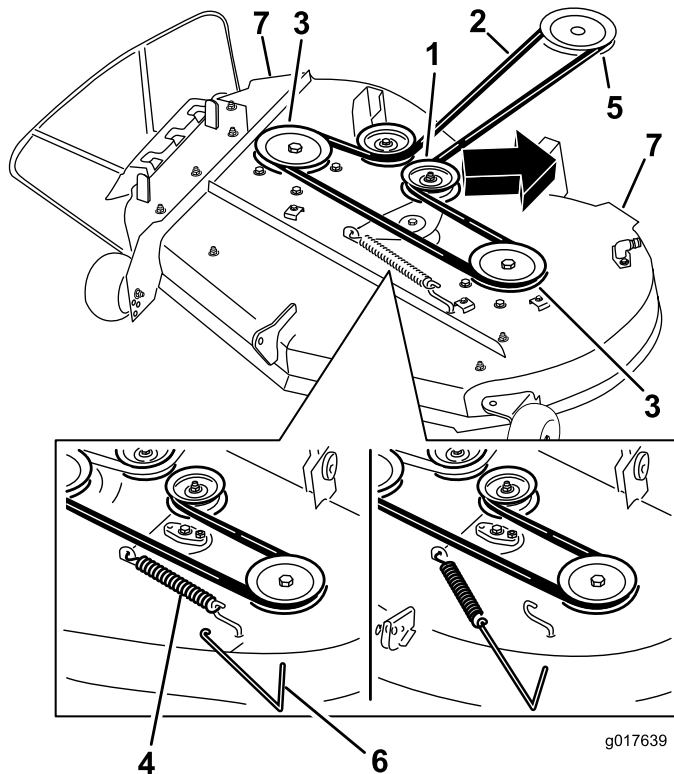

Figure 56
remove tension on the idler pulley and roll the belt off of the pulleys (Figure 56).
5. Route the new belt around the engine pulley and mower pulleys (Figure 56).
6. Using a spring removal tool, (Toro part no. 92-5771), install the idler spring over the deck hook and placing tension on the idler pulley and mower belt ((Figure 56).